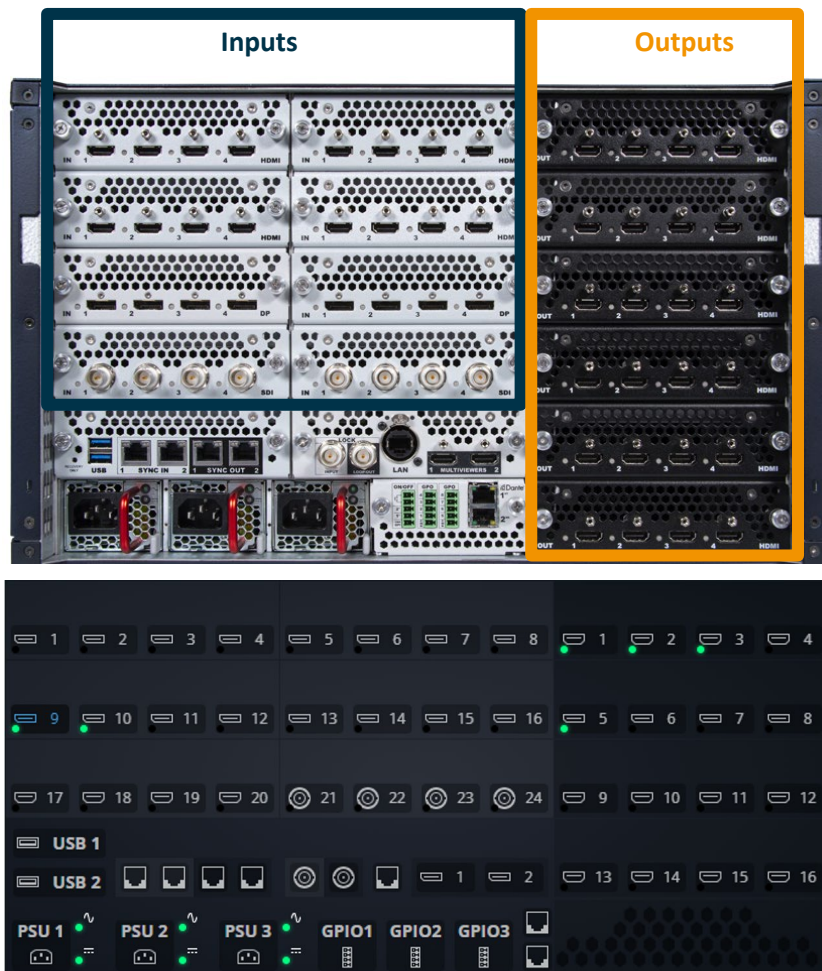

Fig. 2 - LivePremier rear panel (Aquilon Cmax)/ virtual panel with Input/Output numbers (Aquilon RS4)
Input and output cards have different sizes and colors (silver for inputs and black for outputs). They can be replaced on field, using dedicated slots (see *Fig. 2 - LivePremier rear panel (Aquilaon Cmax)* page 23).
- (Inputs and outputs are numbered in rows from left to right and from top to bottom (see Fig. 2 - page 23)).
- Do not force cards elsewhere than their dedicated slots (see Fig. 2 - LivePremier rear panel (Aquilon Cmax), page 23).
- Do not force cards in places other than slots specified in *Fig. 2 - LivePremier rear panel (Aquilon Cmax)* page 23.